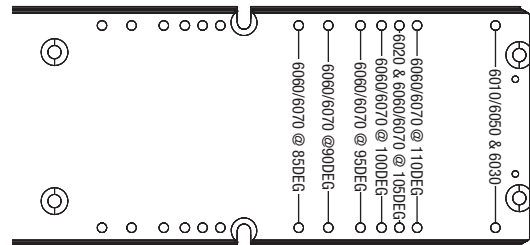
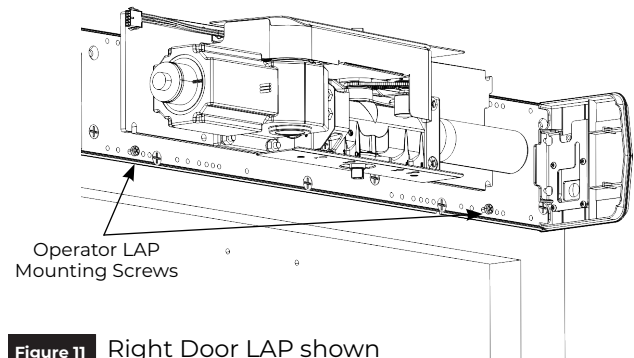

Figure 10
Figure 11 Right Door LAP shown
1. With backplates mounted to frame, use text to locate holes along bottom of backplates that correspond to your specific closer installation **-6011/6051 for left door** and **6061/6071 plus open angle for right door.** (Figure 10)
2. Insert two (2) 1/4-20 x 1/2" Phillips pan head screws on each backplate into appropriate engraved locations. Leave a 5/16" minimum gap between backplate and underside of screw head.
3. On each backplate, orient LAP so spring tube of closer is pointed toward closest hinge edge of frame. Slide each LAP over two (2) screws and tighten. (Figure 11)
- When properly oriented, spring tube is at bottom on left hand backplate (Figure 11) and at top on right hand backplate.